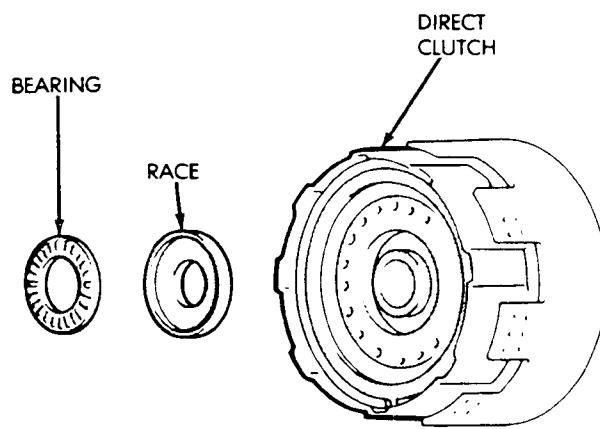

Fig. 32 Remove Bearing And Race From Clutch Hub
(40) Remove thrust bearing and race from clutch hub (Fig. 32).